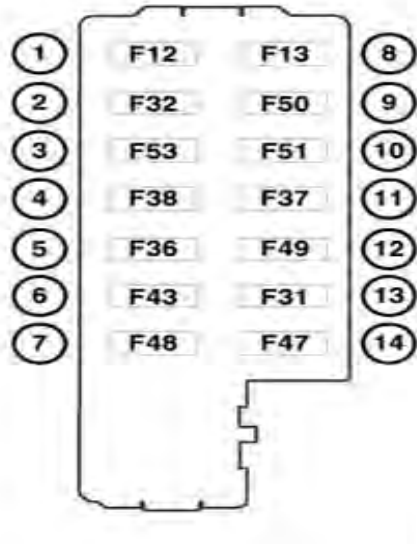

Fig. 1 Interior Fuse Panel Located By The Left Kick Panel.
16. Turn off the ignition and pull fuse F36 for 10 seconds. It is located in the interior fuse panel, which is part of the BCM, see (Fig. 1).
14. Turn off the ignition and pull fuse F36 for 10 seconds. It is located in the interior fuse panel, which is part of the BCM, see (Fig. 1).